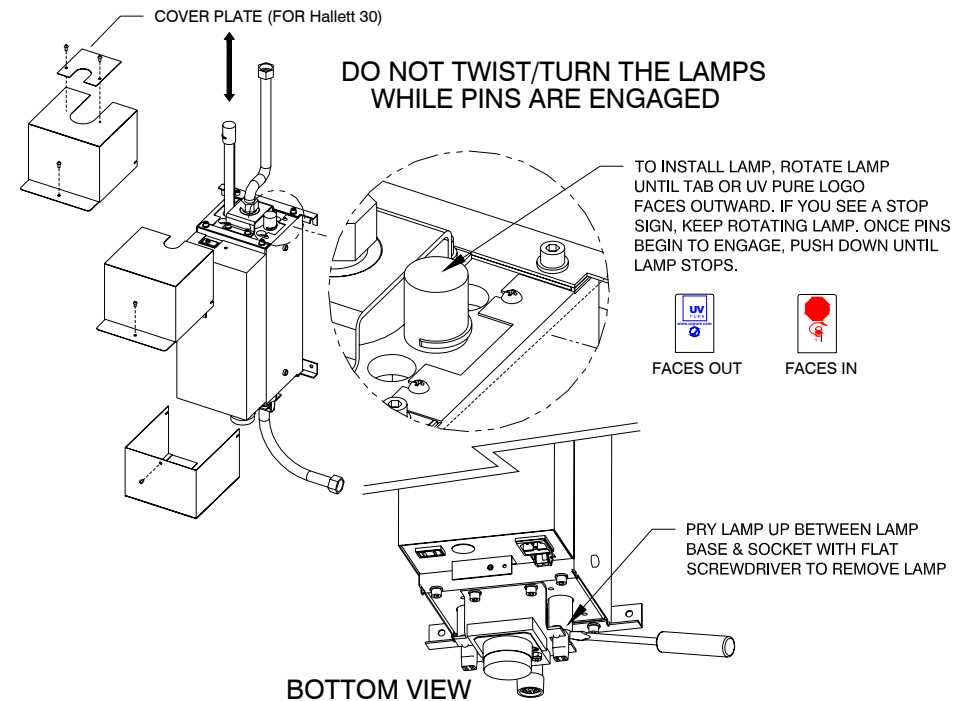

Figure 2
Step 3: Slowly lift the old lamps out of the unit. **Do not twist the lamps when they are installed.** For assistance in this task, use a flat screwdriver and pry the lamps up (see Figure 2). The old lamps should be disposed of properly. They can be disposed of in the same manner as ordinary fluorescent tubes.
Step 4: Install the new lamps into the unit, being careful not to touch the bulb. **Ensure that the lamps are aligned with the tab facing the outside of the system (left or right side of the system), or, if the lamps have a “stop sign” printed on the top ceramic, ensure that the “stop sign” is facing toward the middle/center of the system. (If you cannot see the stop sign, the position of the lamp is correct; if you CAN see the stop sign, the lamp is backward. Spin the lamp 180 degrees so that you cannot see the stop sign. (See Figure 2)**